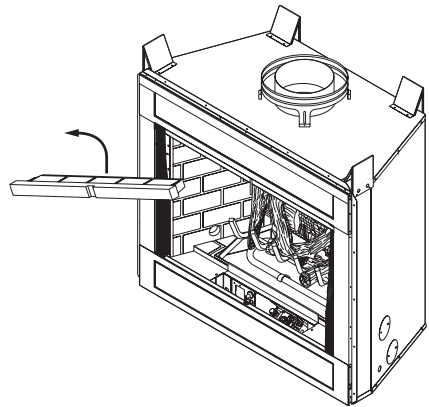

Figure 13 - Removing Front Refractory Access Panel
1. Remove the front refractory access panel by lifting up and angling out of the firebox opening (see Figure 13).
1. Remove the front refractory access panel by lifting up and angling out of the firebox opening (see Figure 13, page 11) to expose controls.